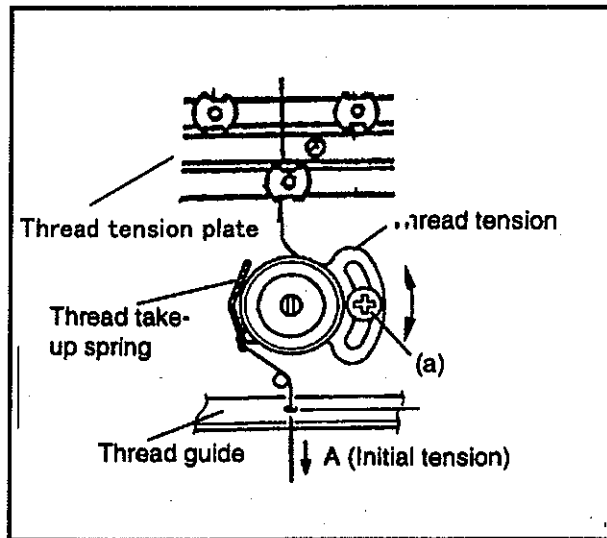

FIG.1
- (1) If the thread take-up spring stroke differs from that specified, loosen retaining screw (a) and move the entire thread tension in the direction of the arrow or adjustment (Fig.1).